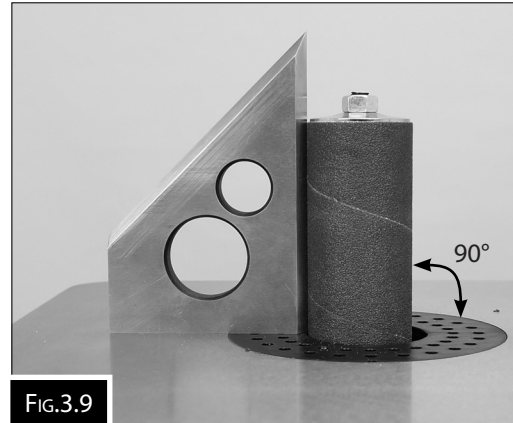

FIG.3.9
5. Using a 90° square placed on the table top, move the square to the spindle. It should measure 90°. (Fig.3.9). If the table is not square to the spindle, an adjustment can be made to the table setting.